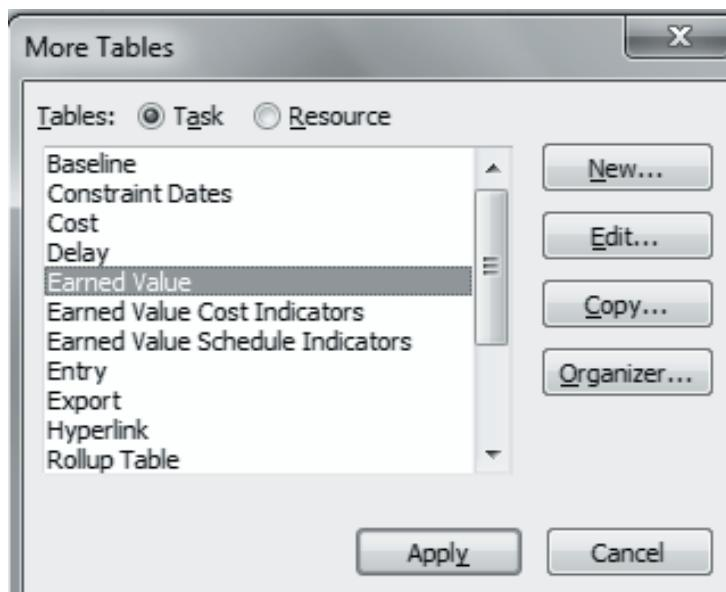

Figure 12.10: More Tables Dialog Box
3. Select **Earned Value** in the list as shown in figure 12.10.